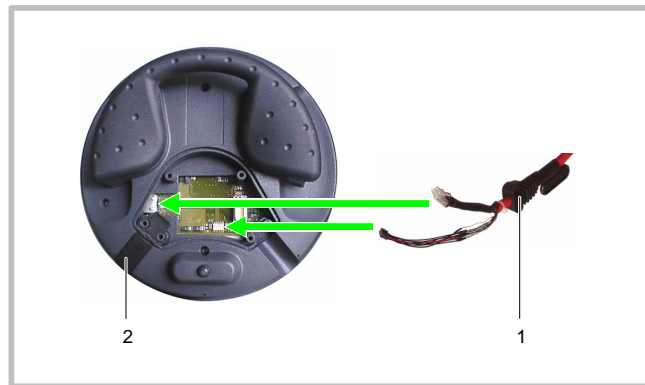

Figure 3-3 Connecting the connection cable
3. Connect the plug connectors at the contact points in accordance with Figure 3-3.